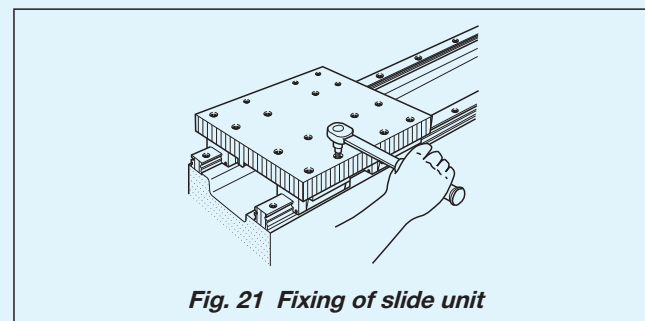

Fig. 21 Fixing of slide unit
④ Temporary fixing of Linear Way I and II slide units
⑤ Fixing of Linear Way I slide unit
⑥ Fixing of Linear Way II slide unit
- Fix one of the Linear Way II slide units in a motion direction correctly and leave the other slide units temporarily fixed. (See Fig. 21)